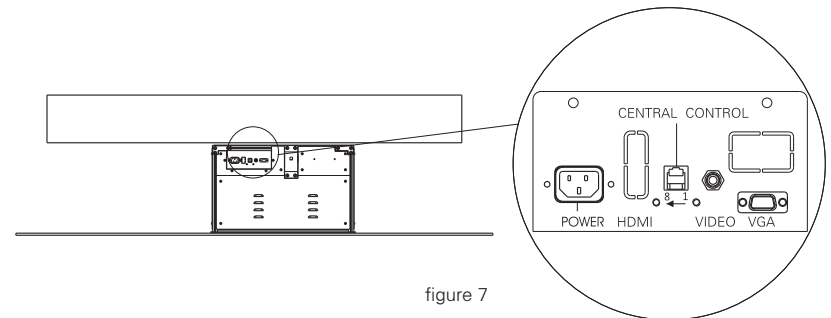

figure 7
4. Figure 7, check about the balance of projector lift